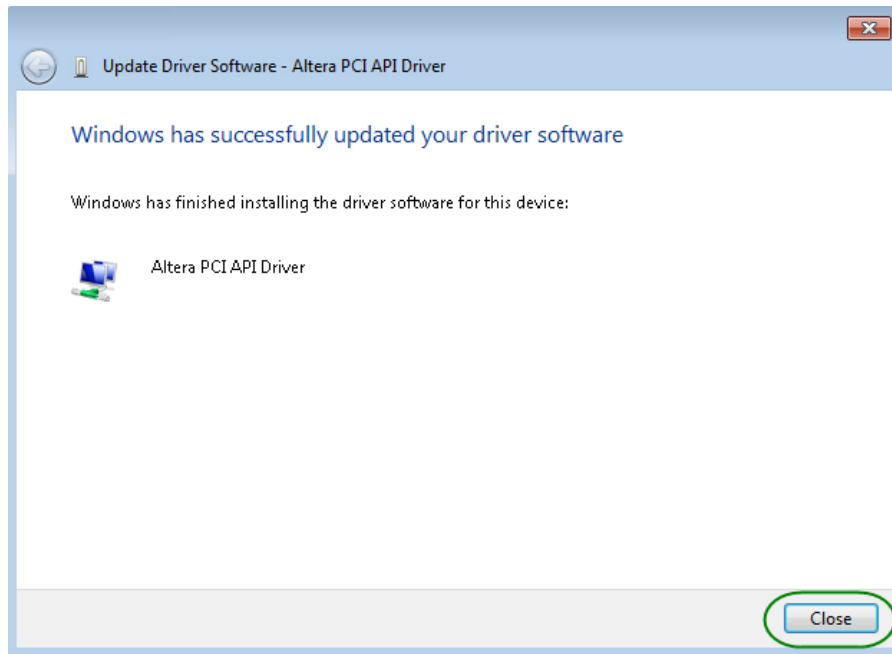

Figure 0-8 Click Close when the installation of Altera PCI API Driver is complete
12. When the driver is installed successfully, the successfully dialog will appear, as shown in **Figure 0-8**. Click the **Close** button.